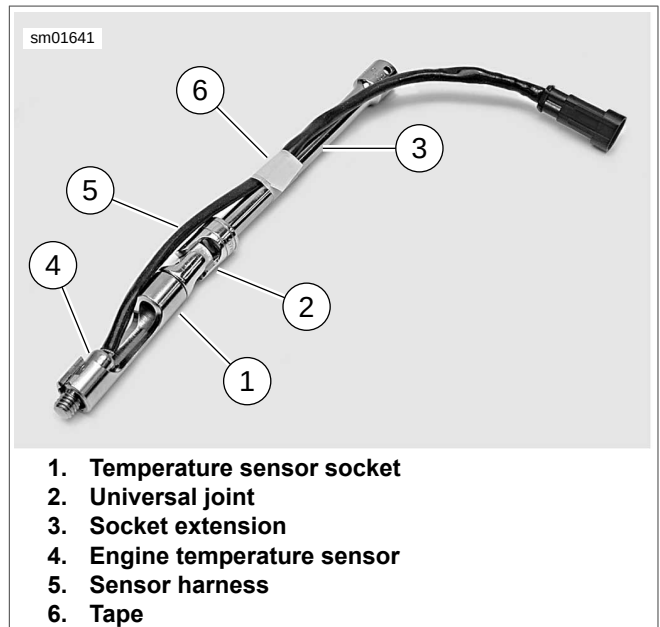
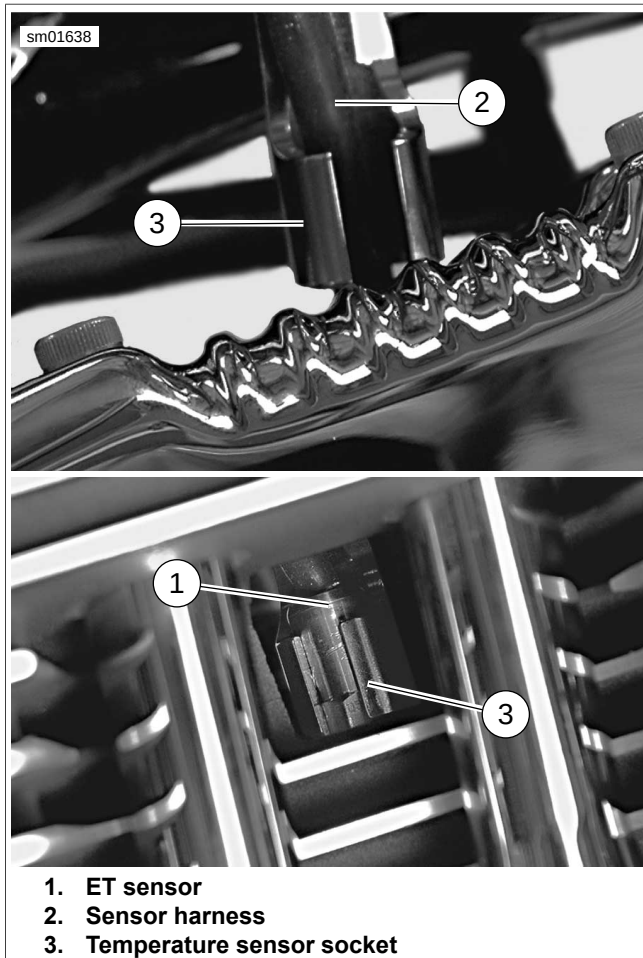

Figure 4-30. Tape ET Sensor Harness to Extension
Figure 4-29. Installing ET Sensor Socket (XL shown)
- b. See Figure 4-29. Fit engine temperature sensor harness (2) into slot in temperature sensor socket (3).
- c. Slide socket down harness, through square hole in center of rear rocker cover assembly and fit onto ET sensor (1).
- d. See Figure 4-30. Once you have installed the temperature sensor socket (1) onto the sensor (4), secure the sensor harness to the socket extension (3) with tape (6). This will facilitate removal of the sensor.
1. See Figure 4-30. Fit engine the ET sensor (4) into temperature sensor socket (1).